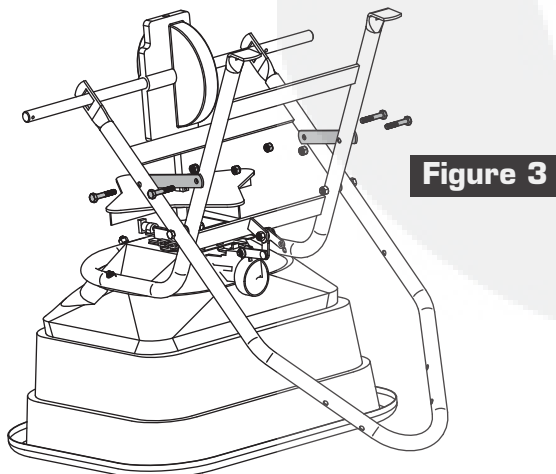

Figure 3
3. Align the Cross Braces to the Hopper and Axle Supports as shown in Figure 3. Using (4) 1-1/2" Bolts and Nylon Locknuts, assemble Cross Braces. Tighten Cross Brace Bolts securely.